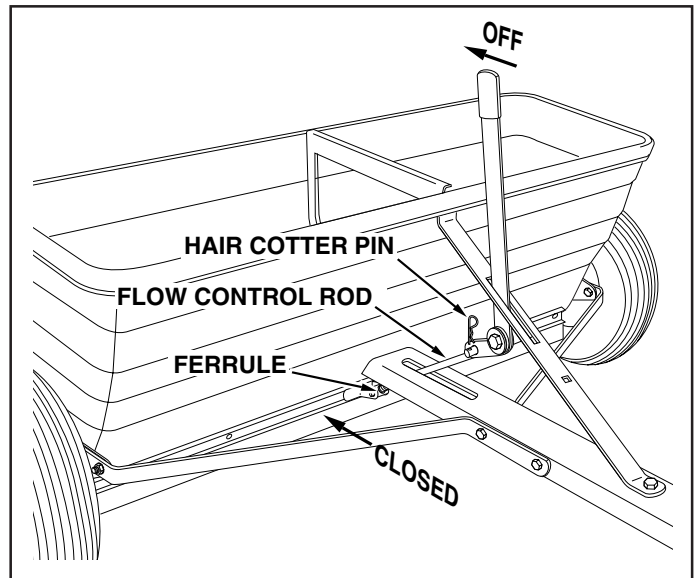

FIGURE 5
10. Move the flow control arm back towards the hopper as far as it will go ("OFF" position). Close the flow plates at the bottom of the hopper by pushing them back as far as they will go. The arm and the plates must remain in this position for the next step. See figure 5.
11. Place the threaded end of the flow control rod through the slot in the tongue and screw the rod into the ferrule at the bottom of the hopper. Screw in until the bent end of the rod aligns with the hole in the end of the flow control arm. Secure the end of the rod to the arm using the hair cotter pin. See figure 5.